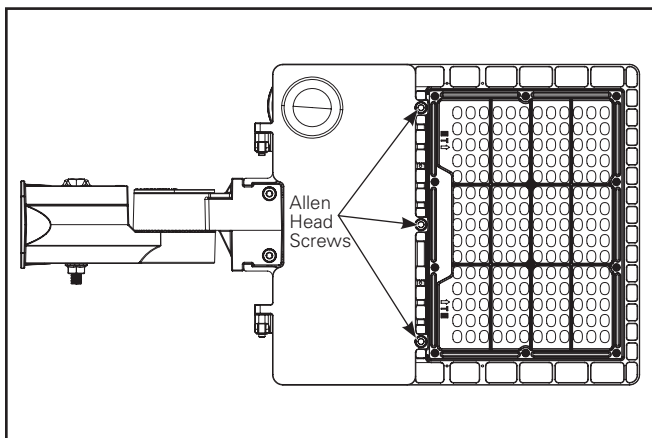

Figure 1.
1. Open the fixture door by loosening the three Allen head screws. (Figure 1.) No need to completely remove the Allen head screws, there is a rubber ring on each screw to hold it to the housing door.